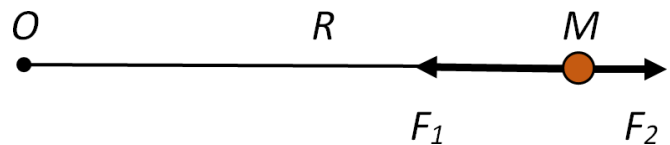

Figure 5. Mass moving in a circle.
6. Consider a particle of mass M moving in a circle of radius R around a center of rotation O as shown in Figure 5. Two forces of strength F_1 and F_2 act on the particle. Write the mathematical relation between the centripetal force and forces F_1 and F_2 .